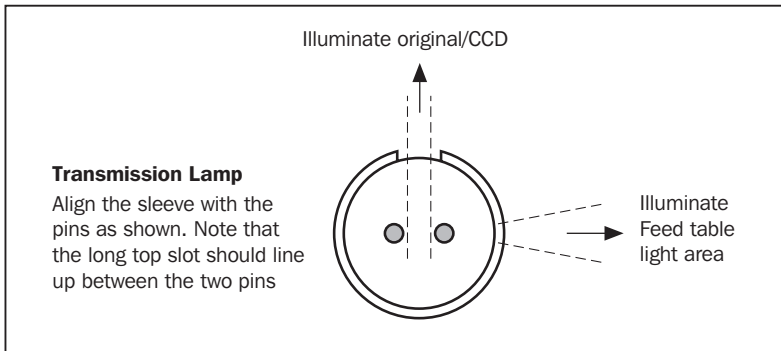

Figure 5: Light tube sleeve alignment as seen from the left side of the scanner
Sometimes the sleeve is glued into place when the scanner is first shipped from the factory, but when you replace a light tube, the sleeve will not be glued; it will be tight so that it can not slip freely, but you will be able to rotate it manually if you try. The correct orientation of the sleeve is shown in Figure 5.
- Install a new light tube following the reverse of the procedure you used when removing it. Make sure the sleeve is aligned correctly with the scanner as shown in Figure 5. Rotate the light tube and/or adjust the sleeve as necessary.